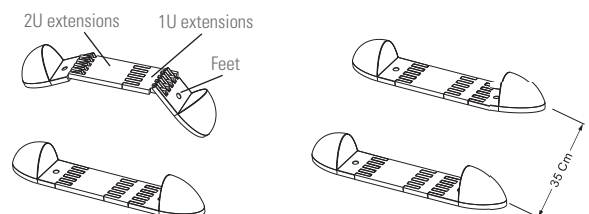

Fig. 8. Set of feet with extensions.
- Assembly feet and extensions as shown in Fig. 8.